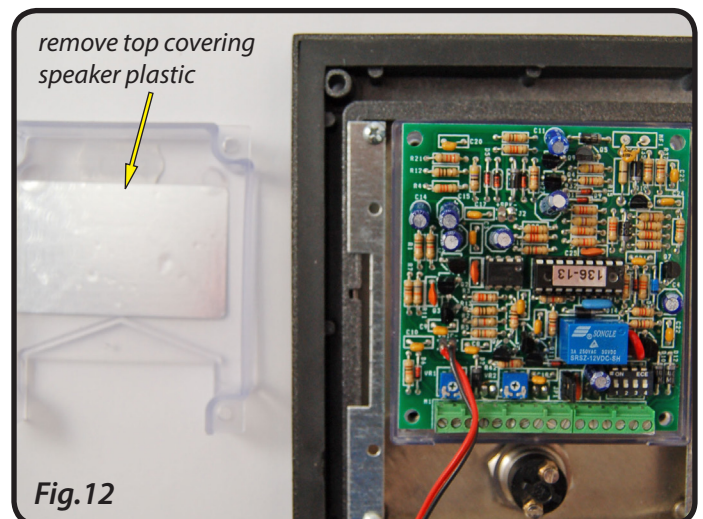

Fig.12
3. Remove the top covering, as shown in Fig.12, and remove the pcb and front speaker plastic from the panel plate.